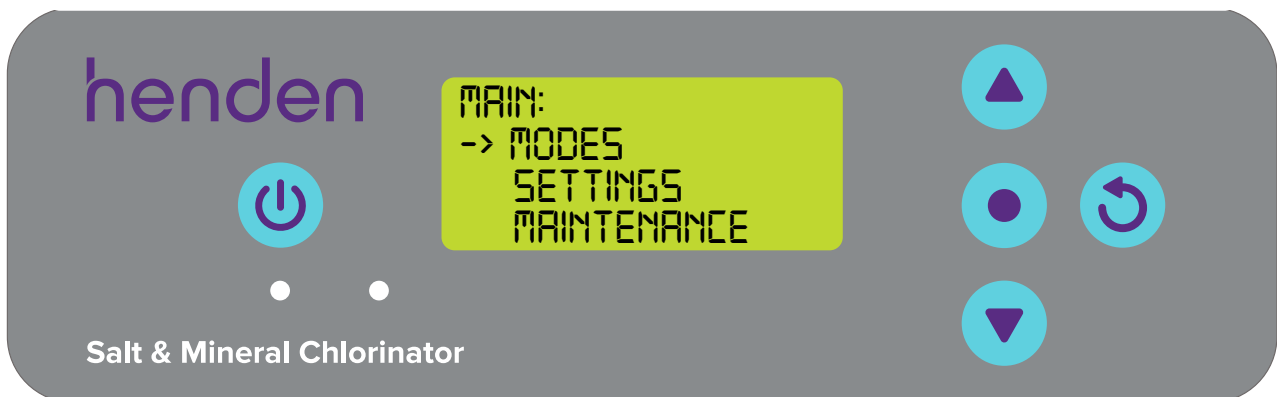

Figure 9.40
- From the **HOME SCREEN**, press the **menu/setting select** button. Press the **menu up/down** buttons to scroll down to **MODES** (ref Figure 9.40), then select by pressing the **menu/setting select** button.